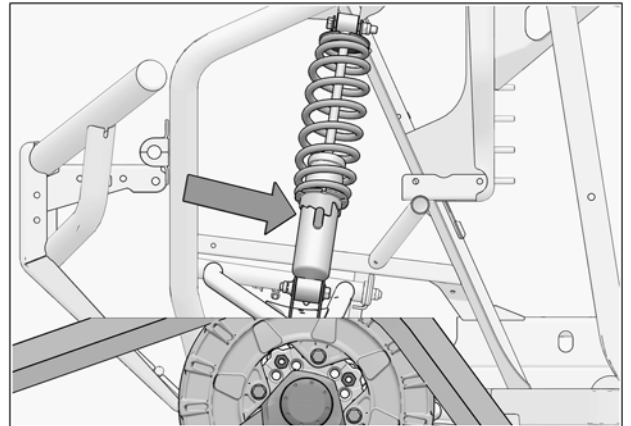

Fig. 37
1. Verify the suspension settings. If the shock absorbers are adjustable, adjust them to the stiffest setting to allow for maximum clearance between the System and the vehicle's fenders. See Fig. 37